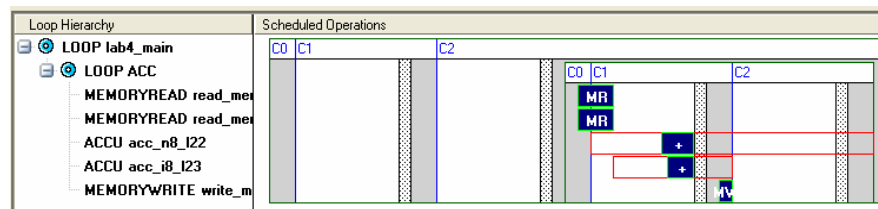

Figure 4 Schedule with Loops Left Rolled
- ✓ Expand the LOOP ACC loop to see the schedule (Figure 4).